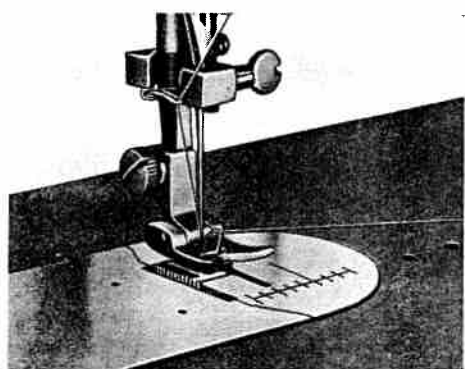

Fig. 13
8. Thread needle FROM LEFT TO RIGHT, drawing it through about 3 or 4 inches. Hold the end of the upper thread loosely and turn the hand wheel toward you until the needle goes all the way down and comes back up. A loop (Fig. 13) will be formed over the upper thread which then can be pulled out straight. Place both thread ends under the slot of the presser foot and draw toward the back of the machine, leaving both threads three or four inches long.